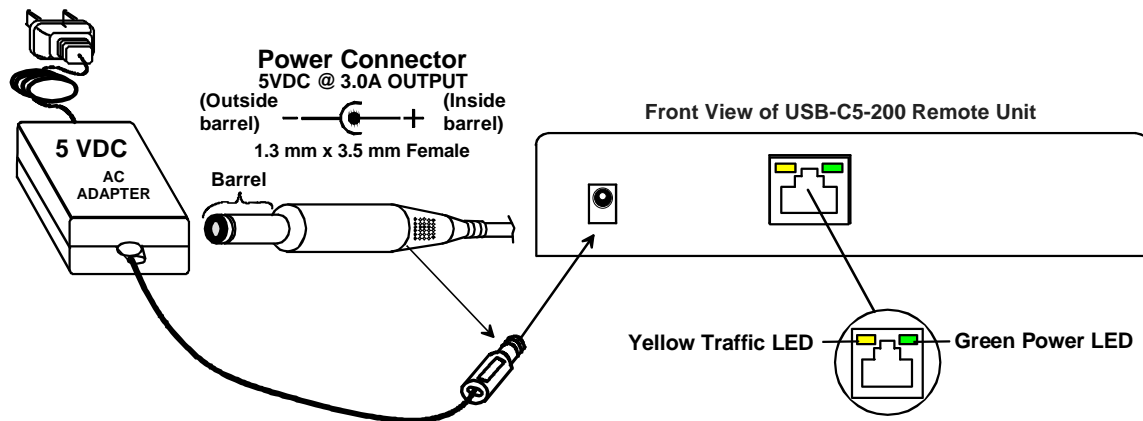

Figure 4- Connect the AC adapter
1. Connect the AC adapter power connector to the 5VDC port on the Remote Unit. (The Local Unit is powered by the CPU.) Plug the AC adapter into a power outlet. The green LED on the RJ45 connector of the Remote Unit should illuminate, indicating that a proper power connection has been made to it. (See Figure 4.)
Note: The yellow LED on RJ45 connector will blink anytime data traffic is passing between the Local and Remote Units, indicating proper CATx cable connection and communication. (See Figure 4)